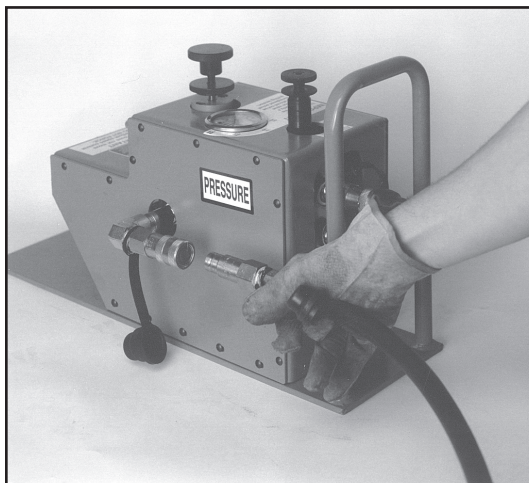

Figure 1. Power Supply Connections
1. Connect the hydraulic supply hoses to the foot control valve assembly. **Ensure the pressure hose from the power source goes to the inlet of the foot control valve** (labeled PRESSURE on the foot control valve assembly, figure 1).